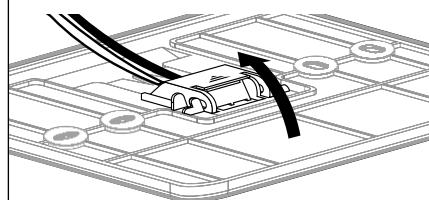

fig. 2
- connect the pair of wires to the connector (as described on the following page) and close the protective tab again (fig. 2);